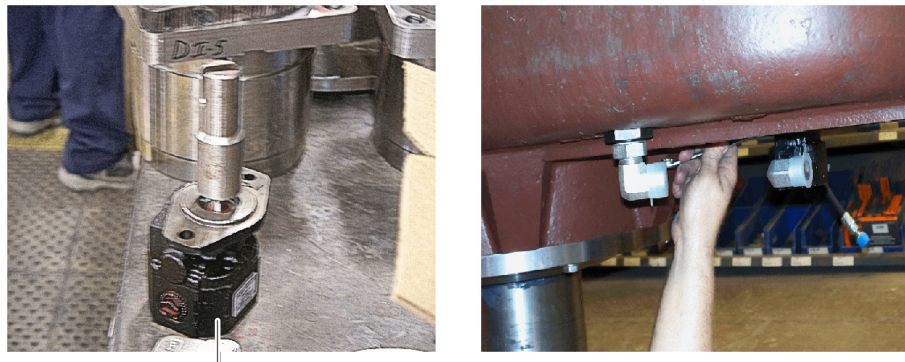

Figure 16
22. Install the lubrication pump (Figure 16, item A) drive adapter onto the keyed shaft of the lubrication pump and make sure that the shaft key is correctly installed. Lightly grease the O-ring groove on the housing and install the O-ring.